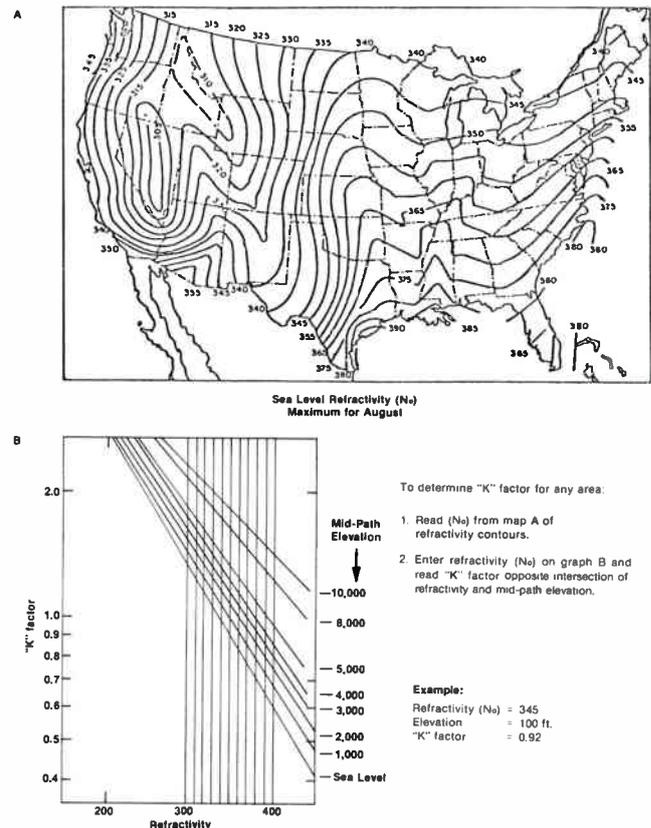

Figure 1: "K" factor.
3. Determine area "K" factor from refractivity map, Figure 1. (Example: "K" = .92.)